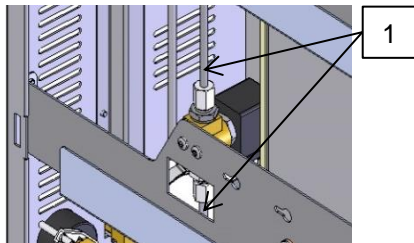

Fig. 2: Remove air extractor duct
- Loosen screw connections on pipe elbows (Label1 → Fig. 2) and remove air extractor ducts completely.